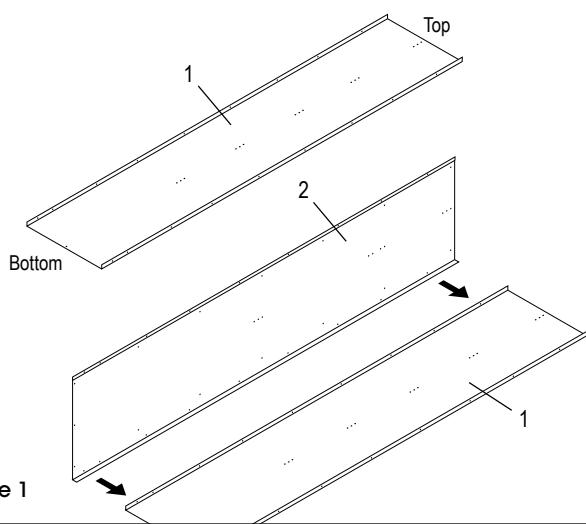

Figure 1
2. Place back (1) on a protected flat surface so that the flanges face upward.
3. Bolt left side (2) to the back (1) so that side flange fits around back (use 7 bolts and nuts - nuts to the inside). Do not use bottom 2 holes; these will be used for attaching legs in step 8. (See Figure 1)